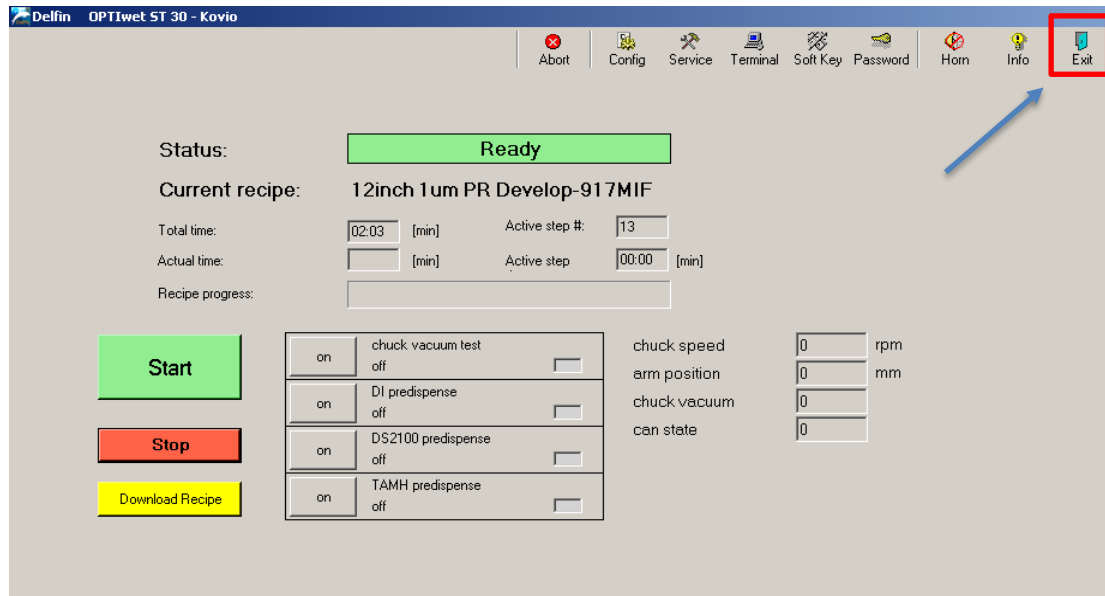

Figure 1: Delfin Application Screen Shot
1. At the system laptop, select Exit (top right) and close the Delfin application. See Figure 1.